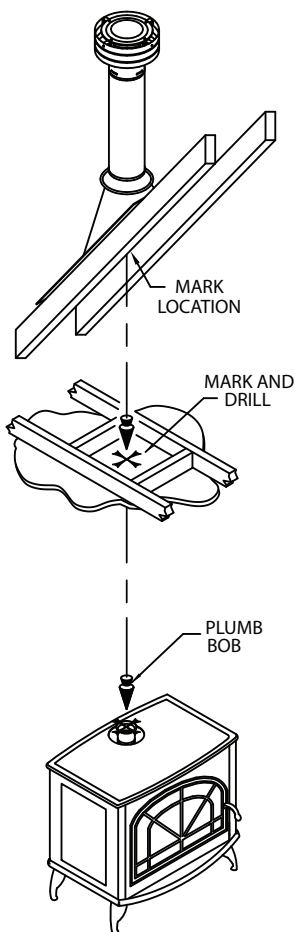

Figure 13
Step 2. Set the gas appliance in the desired location. Drop a plumb bob down from the ceiling to the position of the appliance flue exit, and mark the location where the vent will penetrate the ceiling. Drill a small hole at this point. Next, drop a plumb bob from the roof to the hole previously drilled in the ceiling, and mark the spot where the vent will penetrate the roof (**Fig. 13**). Determine if ceiling joists, roof rafters, framing or other materials will obstruct the venting system. You may wish to relocate the appliance, or to offset, to avoid cutting load-bearing members.